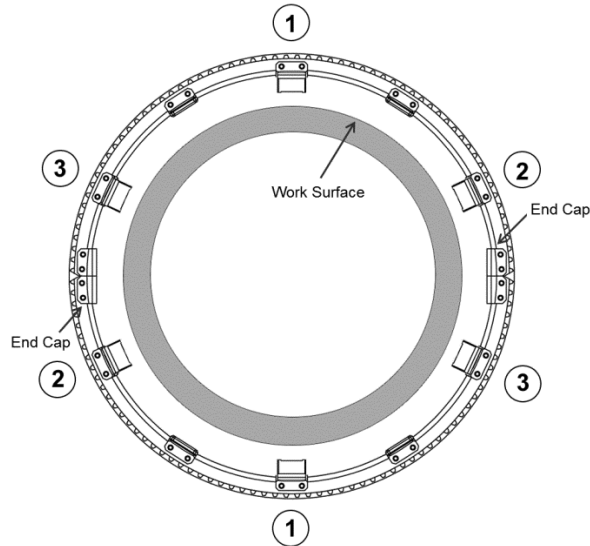

FIGURE 8 – TRACK PLACEMENT
7. Rotate the track ring so that the middle of any segment is at the topmost point of the work surface which will position one track shoe at the top most point and one track shoe for the second segment at the bottom most point (see Figure 8 – Track Placement).
Figure 8 shows the order to tighten the track shoes. Start with the top and bottom shoes labeled “1”. Next move on to the opposing shoes labeled “2”. Lastly tighten the remaining shoes labeled “3”.